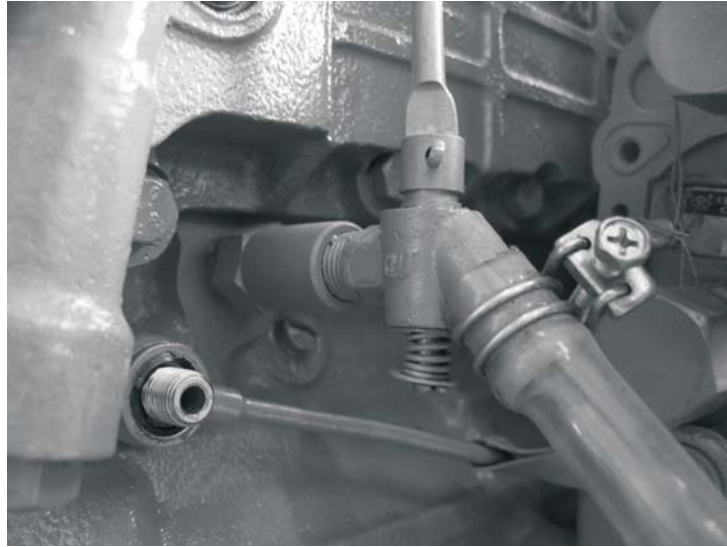

Fig. 2-2 Water drain valve
- (1) The engine can stop after the load is released and 5 minutes at low speed or idle speed. Especially for the turbocharged diesel engine, it can stop only after the ultra-high-speed of supercharger increases.
- (2) At the temperature of below 5, if the antifreeze is not used, the cooling water should be drained out after °C parking (see Fig. 2-2), to avoid cracking the body.
(3) After each parking, eliminate the fault found during operation in timely way, with necessary check done. The regular inspection and maintenance of diesel engine or the timely elimination of some slight fault is a necessary condition to keep the diesel engine at normal state and to avoid serious fault and to obtain the good economic benefit.
(4) If parking for a long time, do the cleaning work and assemble the necessary oil seals to prevent rust.